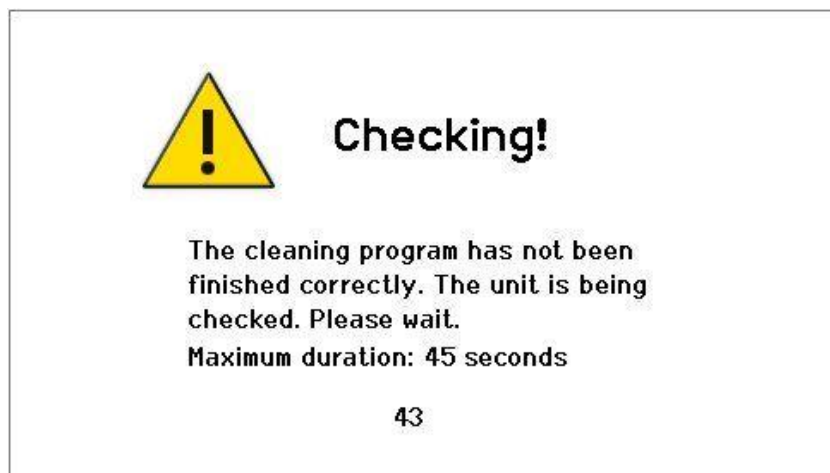

Fig. 11.1.2 Fault information for unit checking
**Fault information:** This screen (*Fig. 11.1.2*) is always displayed if the cleaning program has not been ended properly: e.g. after any fault in the cleaning unit or a power failure during cleaning.